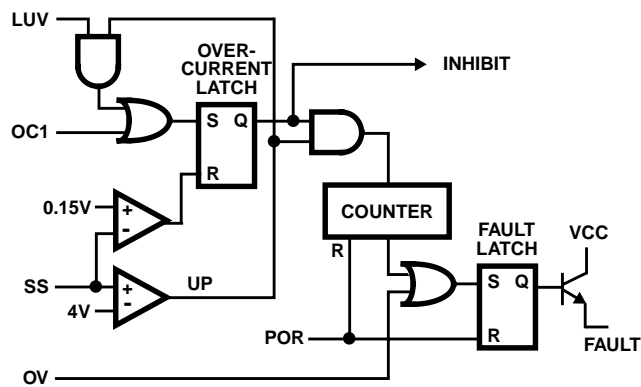

FIGURE 4. FAULT LOGIC - SIMPLIFIED SCHEMATIC
Figure 4 shows a simplified schematic of the fault logic. An over-voltage detected on  $V_{SEN1}$  immediately sets the fault latch. A sequence of three over-current fault signals also sets the fault latch. The over-current latch is set dependent upon the states of the over-current (OC), linear under-voltage (LUV) and the soft-start signals. A window comparator monitors the SS pin and indicates when  $C_{SS}$  is